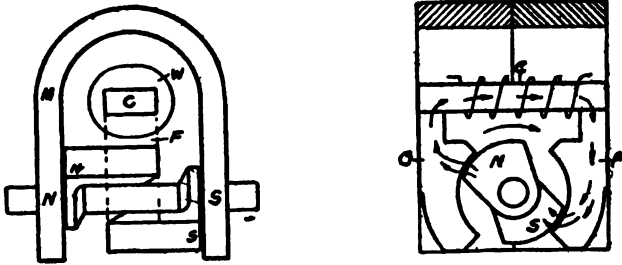
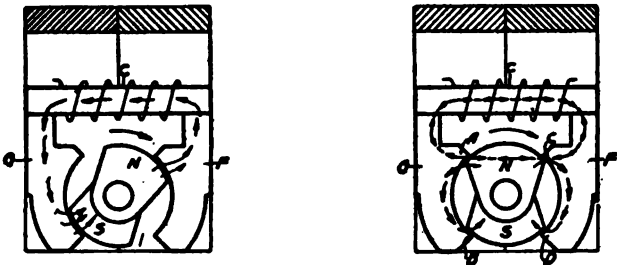

Fig. 72. Details of Dixie Magneto
Fig. 73. Diagram Showing Reversal of Magnetic Flux in Dixie Magneto
*N* to *S*, which are the rotating pole pieces. The coil with its primary and secondary windings is placed directly above this rotating element, in the hollow of the magnets, as shown in Fig. 72. At the right in the same figure is shown the relation between the rotor, the magnets, and the coil. It will be noted that the core of the coil *C* bridges the stationary pole pieces *F* and *G* and that the shaft of the rotor passes through the magnets in a plane at right angles to that of the usual magneto. The reversal of the magnetic flux, with varying positions of the rotor, is shown in the right-hand sketch of Fig. 72, and in Fig. 73.